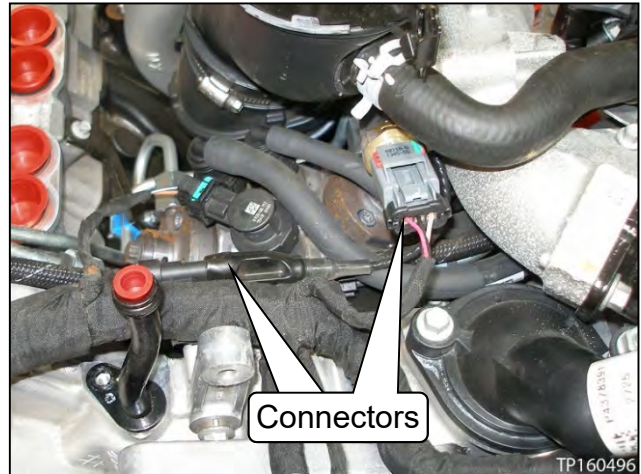

Figure 47
33. Disconnect the connectors for the low pressure turbocharger boost pressure sensor and high pressure turbocharger speed sensor (see Figure 47).